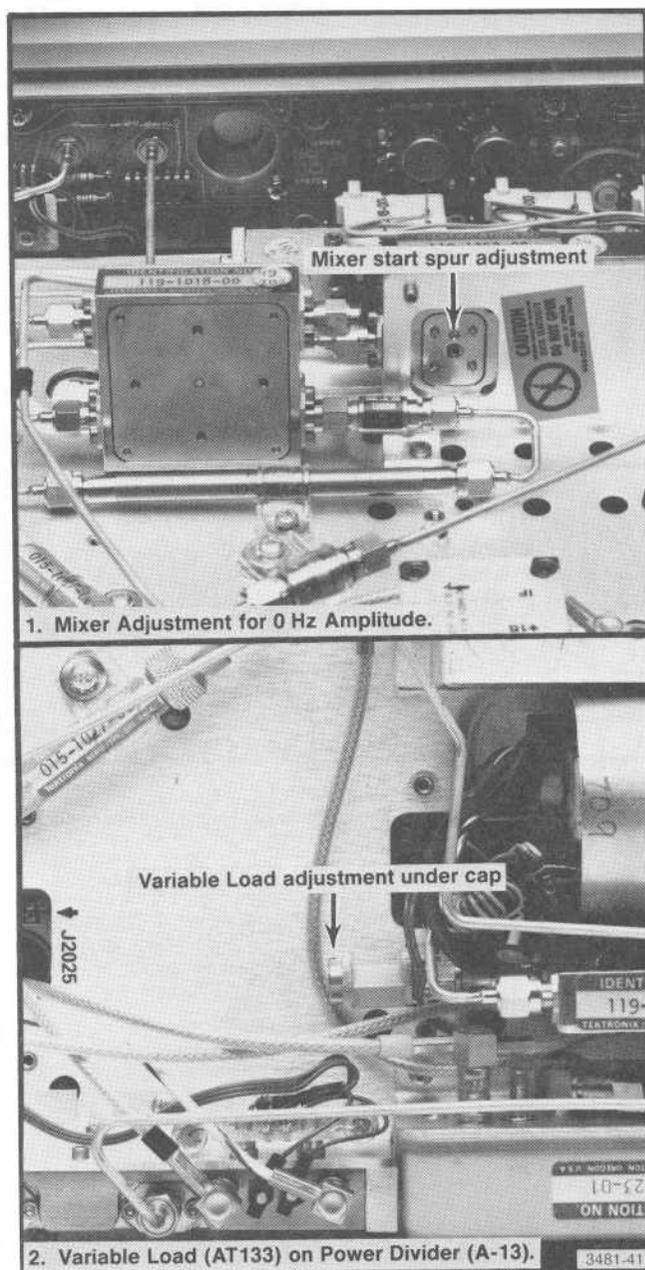

Fig. 10A. Adjustment locations for start spur amplitude.
b. Terminate the RF INPUT with a 50 ohm termination (BNC-to-N adapter and BNC 50 ohm terminator). Turn the 496/496P over to gain access to the RF deck. Remove the protective cover from the end of the Var Load assembly (see Fig. 10A) and center the start spur potentiometer.
e. Re-adjust the Start Spur potentiometer in the Var Load assembly (see Fig. 10A) for a -30 dBm amplitude peak of the zero-hertz response.